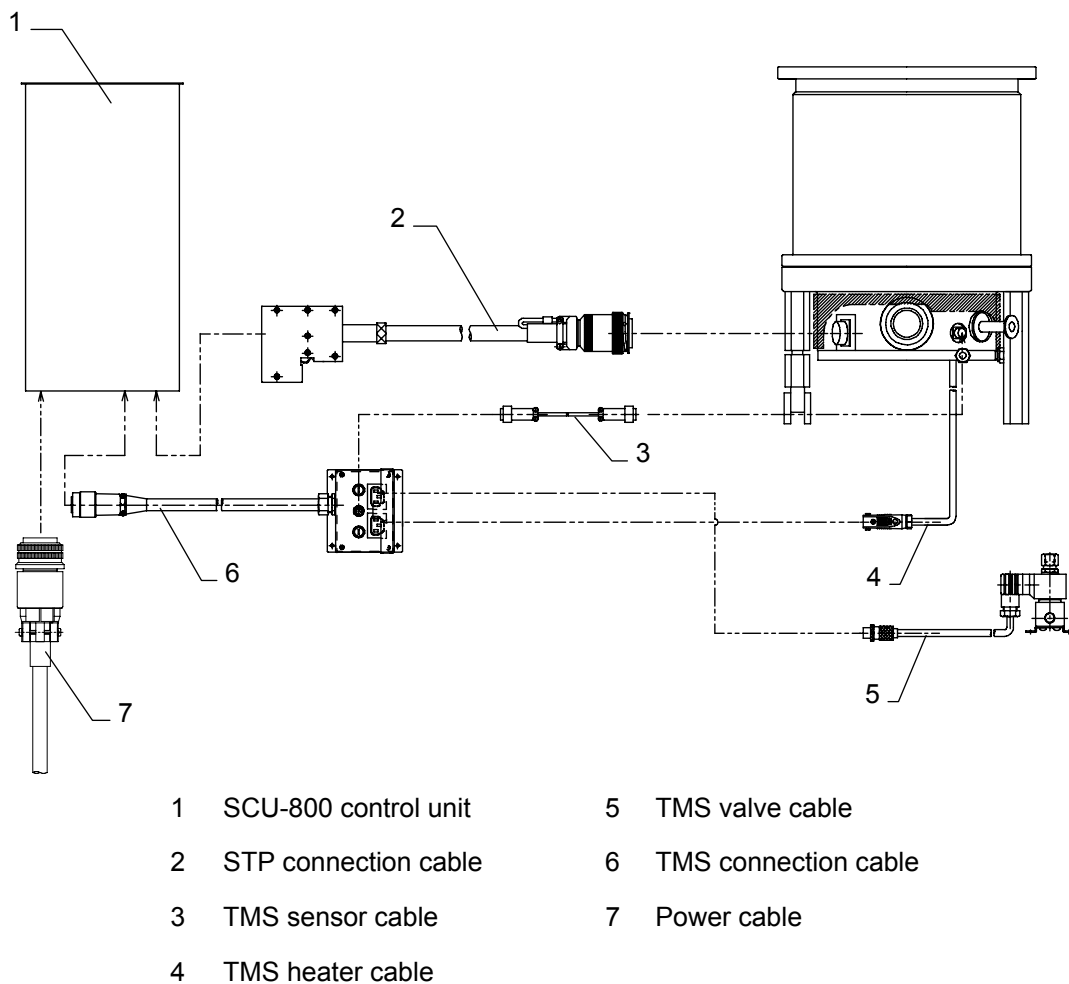

Figure 8 - Configuration of the STP pump with the TMS
Note: Figure 8 shows a typical TMS system installation. System connections and cables differ according to the type of pump connected to the SCU-800. Refer to the STP pump Instruction Manual (A) and (B) for full details of connection cables and system connections.